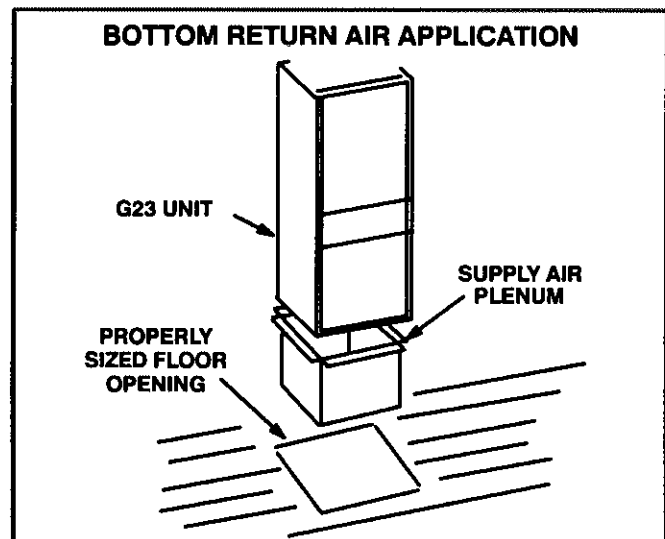

FIGURE 8
- 2- Bend a flange on return air plenum and lower into floor or platform opening. See figure 8.